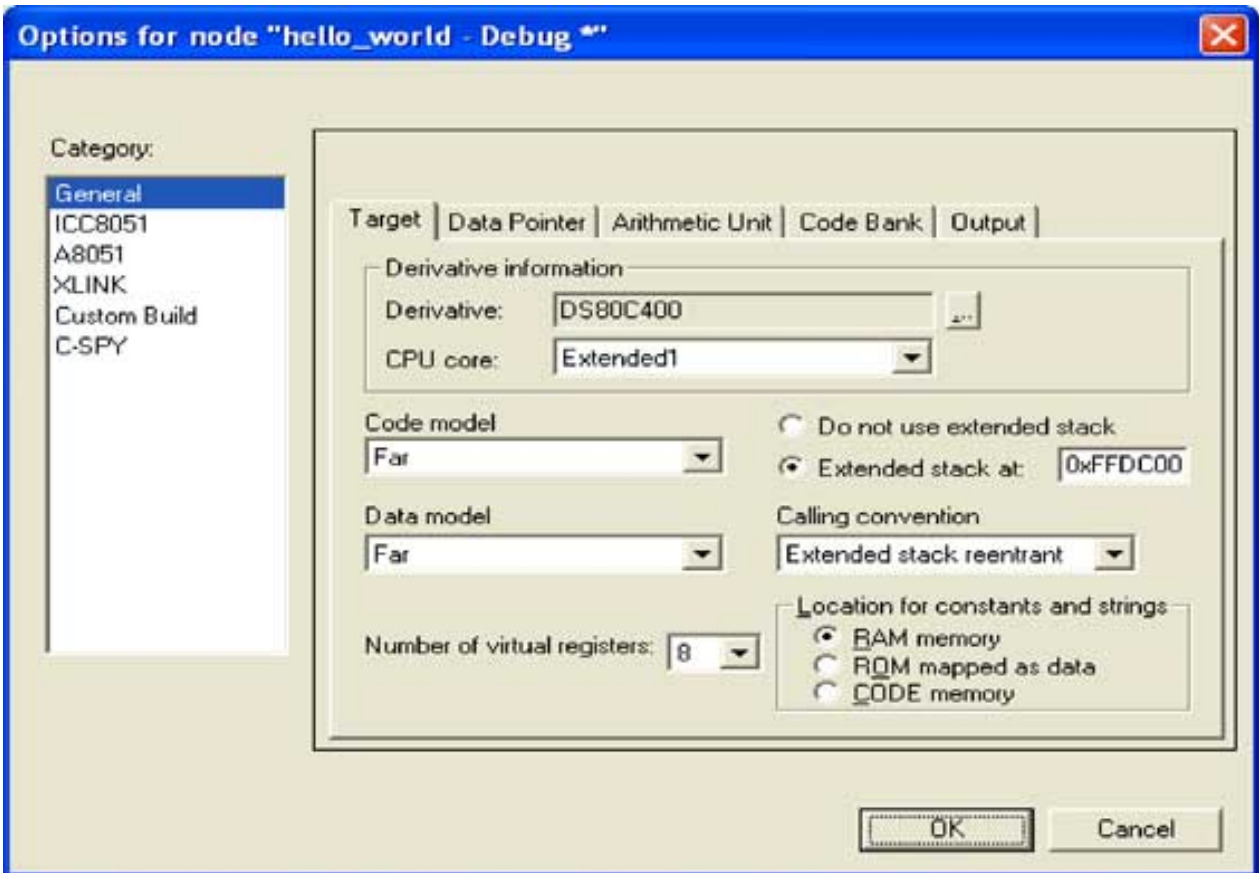

Figure 1. Selecting the Target options for a new IAR 8051 project.
- Click **Target** tab and browse to select **DS80C400** for the **Derivative**. Change the value for **Extended stack at:** to **0xFFDC00**. This is because the IAR startup code relocates the DS80C400 hardware stack to 0xFFDC00. Refer to **Figure 1** for these settings.